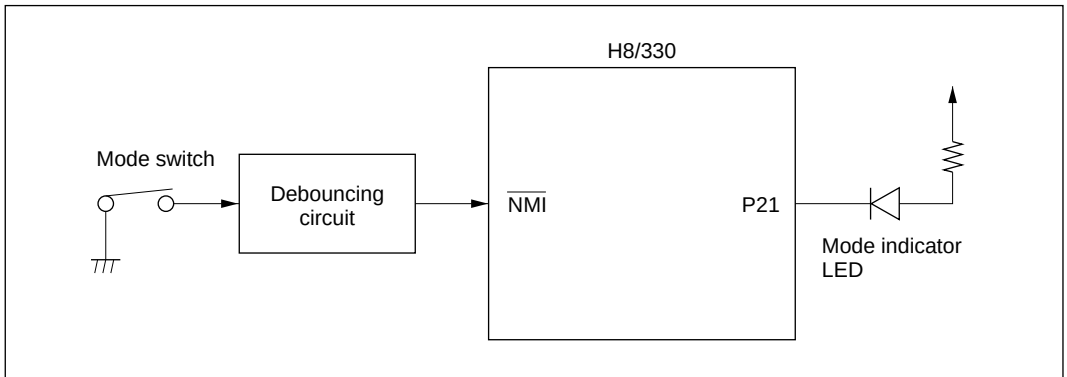

Figure 1 Power-Down Mode Test Board
1. This sample task runs the H8/330 in power-down mode (software standby mode) using the test board shown in figure 1.